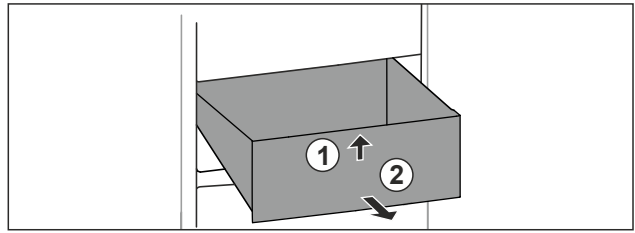

Fig. 77
- ▶ Lift up drawer at the front. Fig. 77 (1).
- ▶ Remove drawer to the front. Fig. 77 (2).